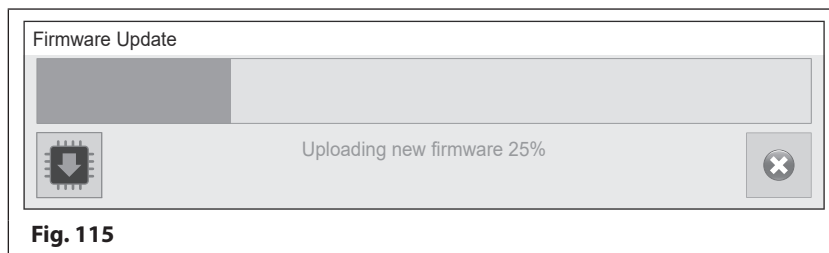

Fig. 115
3. Next click on the **OPEN** button and the latest firmware update will be uploaded to the GSM intercom, as shown in **Fig.115**.